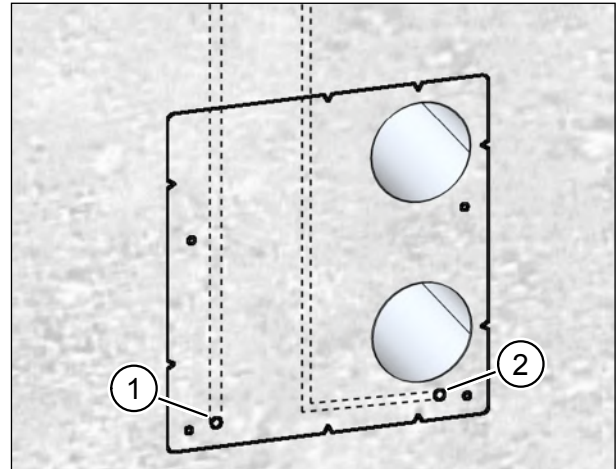

Fig. 13: Chasing wall channels for the mains cable and control cable (if used)
- ▶ Chase out a wall channel for the mains cable starting from the cable passage (item 1 in Fig. 13).
- ▶ Chase out a wall channel for the control cable (if used) starting from the cable passage (item 2 in Fig. 13) (only for ventilation units with a control cable connection, see Table 4 in section 10.8 on page 22).